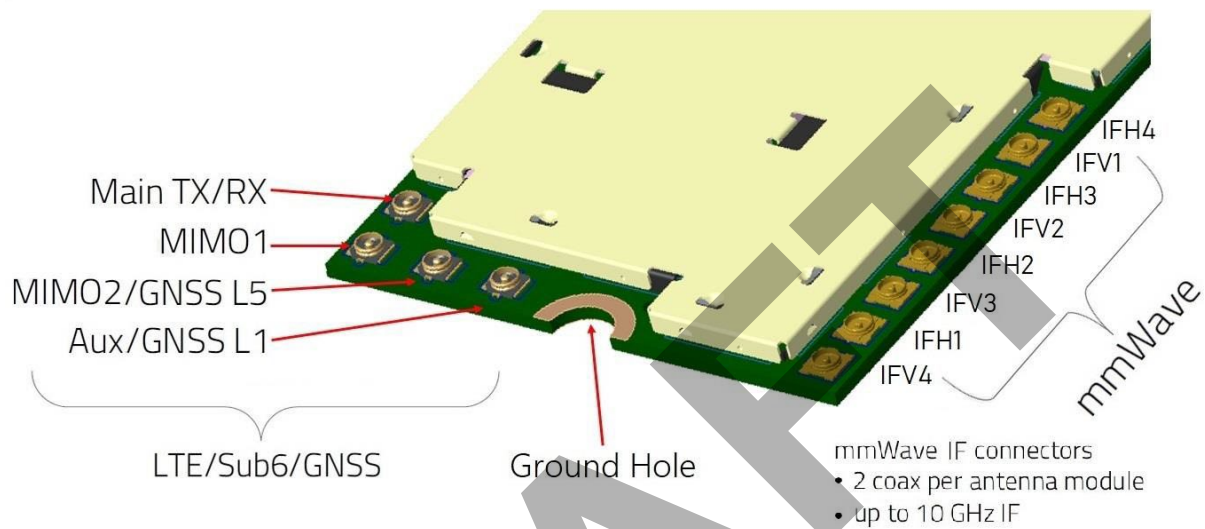

Figure 3-1 Module Connectors Include Image with Spacing Info
- Connect to system ground using the ground hole shown in Figure 3-1.